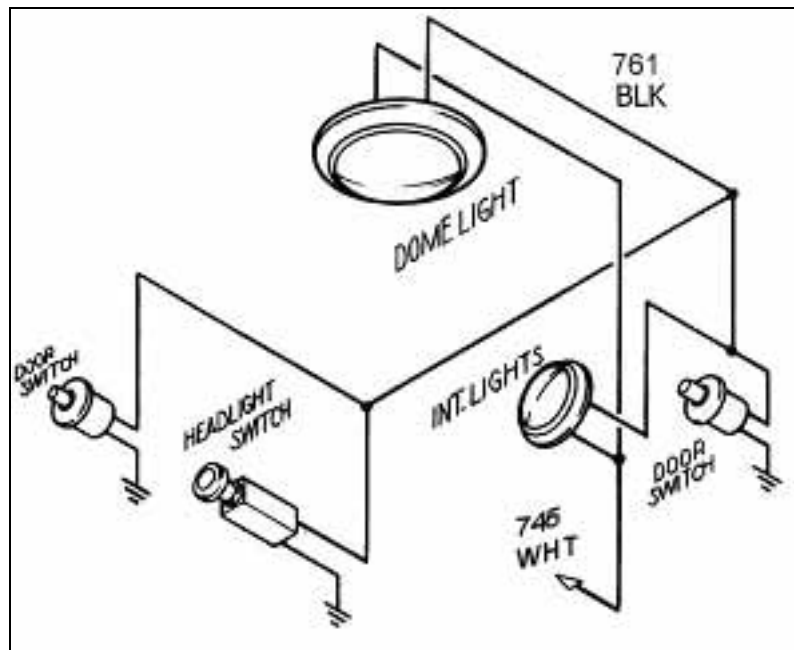

Figure 9-4 Interior Lighting (GM Style Jamb Switch – Painless Part #80170)
9.4 Interior Lighting. See Figure 9-4
- 9.4.1 Interior Lights are switched through the door switches and the dash-mounted headlight switch, which is usually rotated counter-clockwise to turn on. These switches apply ground to the circuit. YOU WILL NEED TO SUPPLY THESE GROUND WIRES. 12V is continually present at the light bulbs. See **Figure 9-4**.